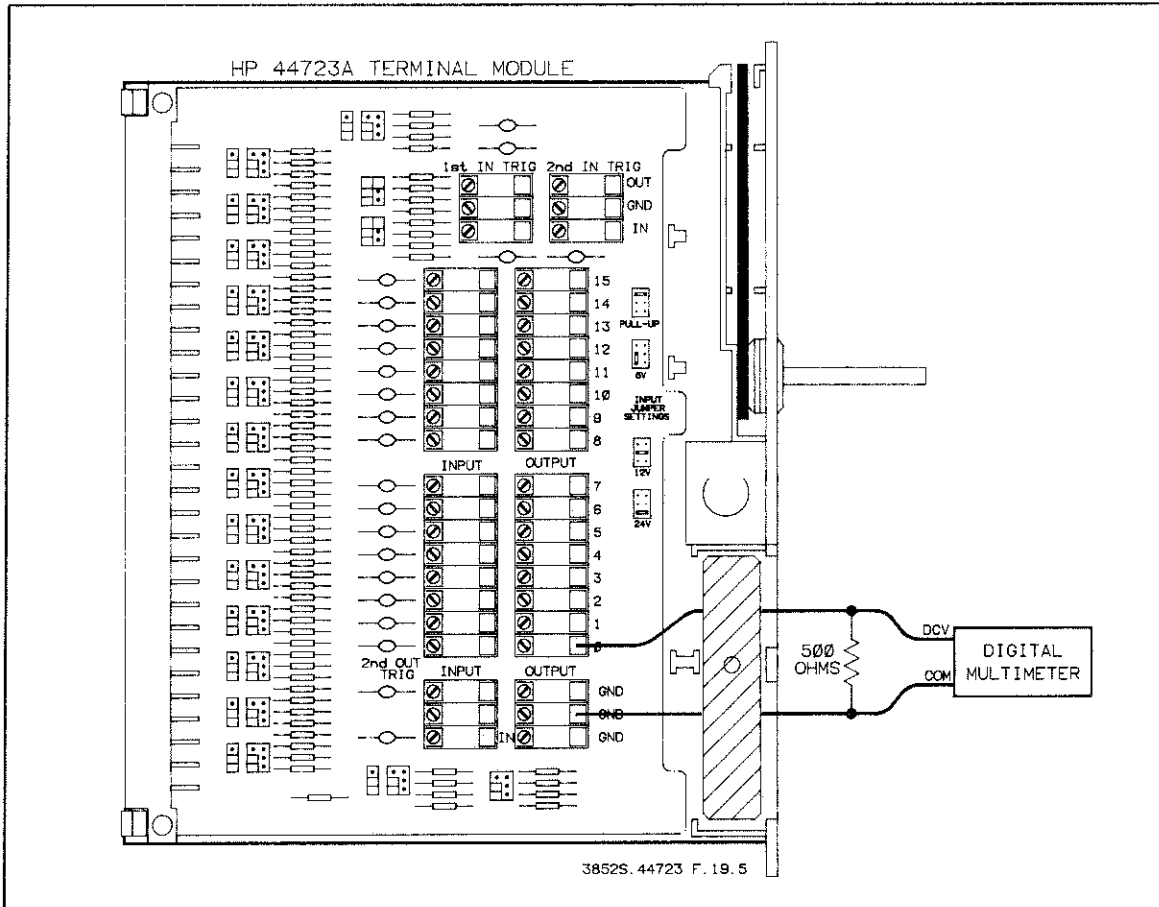

Figure 19-5 Output Driver Test
2. Make sure the output jumpers on the terminal module are selected for TTL outputs on all channels (see Figure 19-5).
4. Refer to Figure 19-5. Connect a 500  $\Omega$ , 1/4 W resistor across the digital multimeter's DCV (HI) and COM (LO) input terminals. Setup the digital multimeter for dc volts and autorange.
5. Connect the digital multimeter's DCV input to the HIGH output terminal of channel 0 on the terminal module. Connect the COM input to GND on the terminal module. The setup is shown in Figure 19-5.
10. Set all channels low (0) by executing: